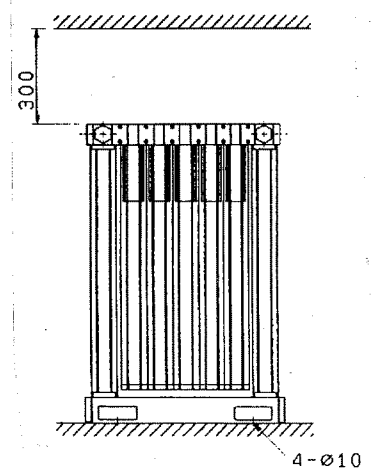

Fig.6
- 3) Allow a minimum of 300mm upward for maintenance purpose. (Refer to fig.6)